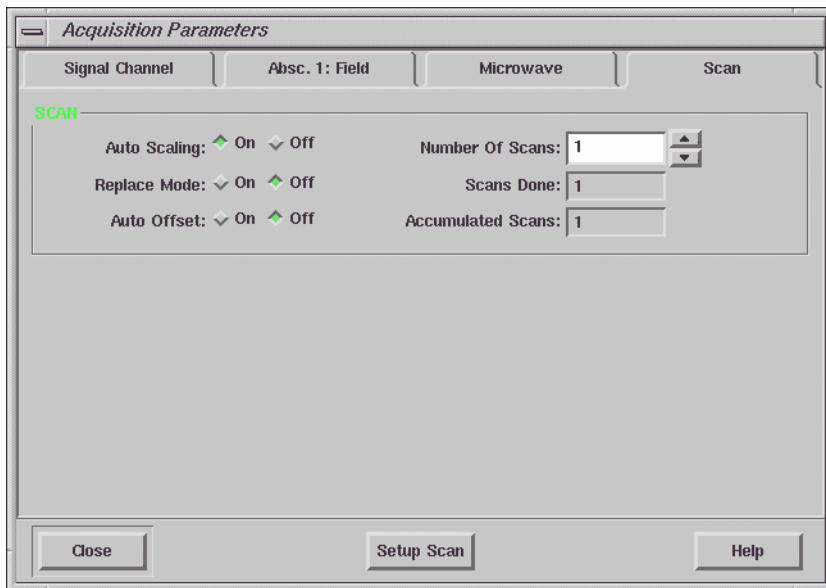

Figure 3-6 Setting the Scan parameters.
6. **Set the Scan parameters.** Click the Scan tab and make sure that the Number Of Scans is set to one. (See Figure 3-6.)